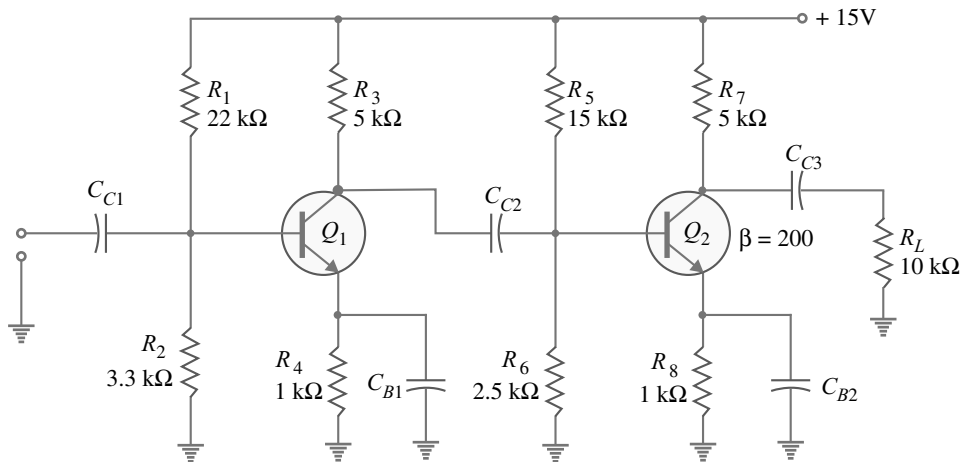

Fig. 8.62
14. Determine the voltage gain for the first stage in Fig. 8.62. [53.03]
15. If the value of  $\beta$  for the second stage in Fig. 8.62 is increased to 280, determine the voltage gain of the first amplifier stage. [58.08]